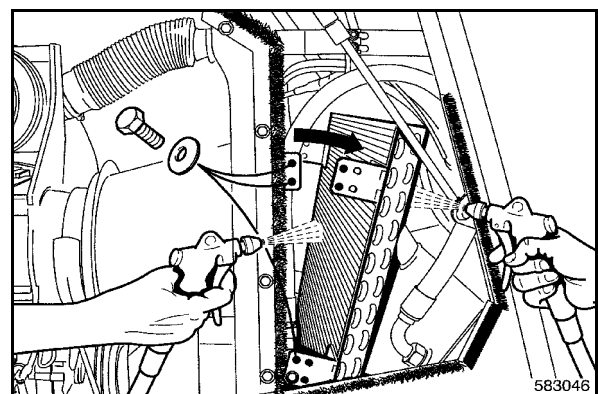

Fig. 154
- Unscrew the condenser fastening screws (Fig. 154) and fold the condenser forward.